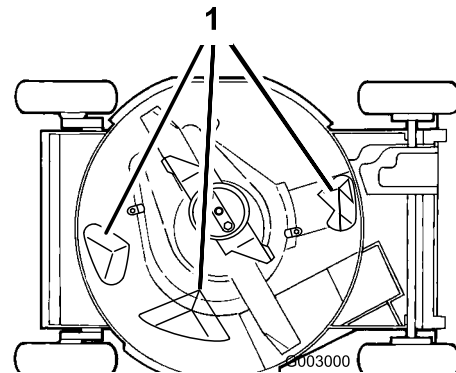

Figure 35
To ensure the best performance, keep the underside of the mower housing clean. Be especially careful to keep the kickers free of debris (Figure 35).
5. Remove 2 blade nuts, the accelerator, and the blade (Figure 35).